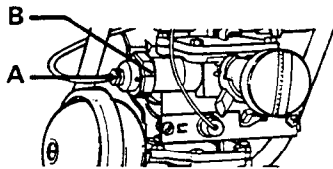

Fig.14
- a) Disconnect thermocouple from thermoelectric valve (A) (see fig. 14).
- b) Undo nut retaining the thermoelectric valve (B).